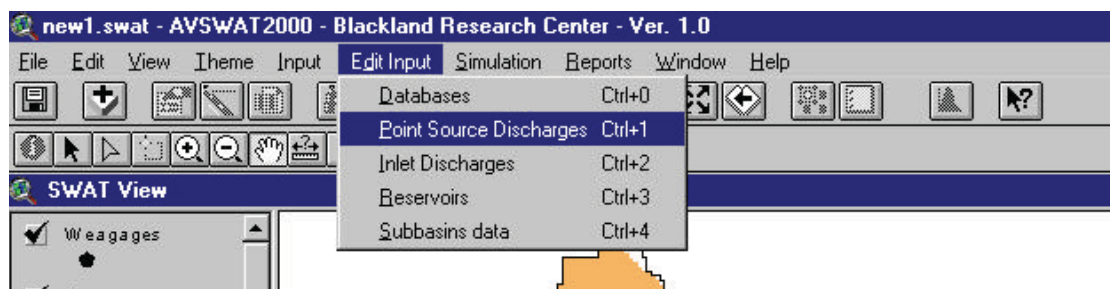

Figure 9.2
1. Select **Point Source Discharges** from the **Edit Input** menu (or press `Ctrl+1`) (Figure 9.2).